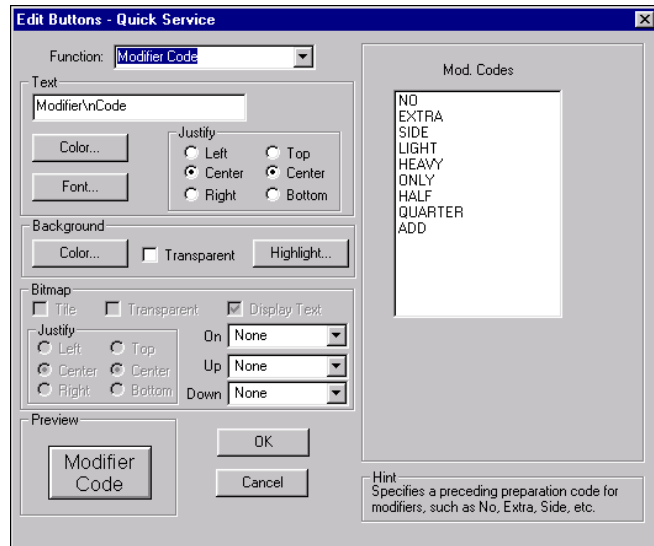

Figure 5-85 Modifier Code Button Function
1. Select **Modifier Code** from the **Function** drop-down list. An additional option displays, as shown in Figure 5-85: